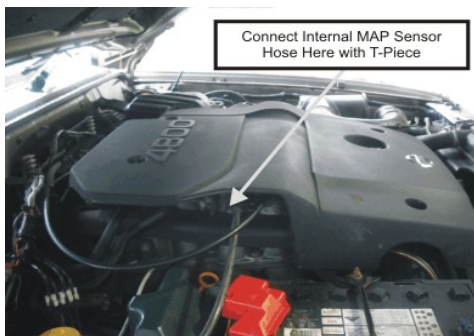

Figure 5
5. If the Internal 150 kPa MAP sensor is to be used route a piece of silicon hose from the Internal MAP Connection on the rear of the ECU to the engine, through the harness grommet in the firewall. Connect the hose to the engine via a T-Piece joiner off the manifold as shown in figure 5 and 6 below.